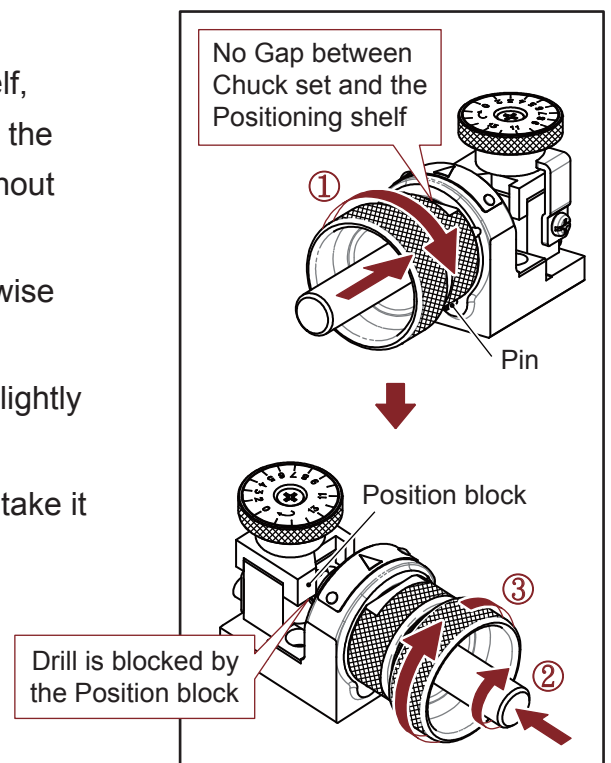

Fig. 7-3
### 3. Drill Positioning (Fig. 7-3)
- ① Check the cutting edge of the drill to see whether scraps / iron ash existed - clean the drill.
- ② Check the scale of the Positioning Shelf. (See chapter “VII. The use of the Positioning Shelf”)
- ③ Check the diameter of a drill and adjust the scale according to drill diameter. (See chapter “VII. The use of the Positioning Shelf”)
- ④ Check the position block on the Positioning shelf, if it is damaged, please contact with your agent for replacement.
- ⑤ When adjusting the length position, make sure the chuck set is tightly connect to the shelf without gap. (See page 11, Fig 7-3)